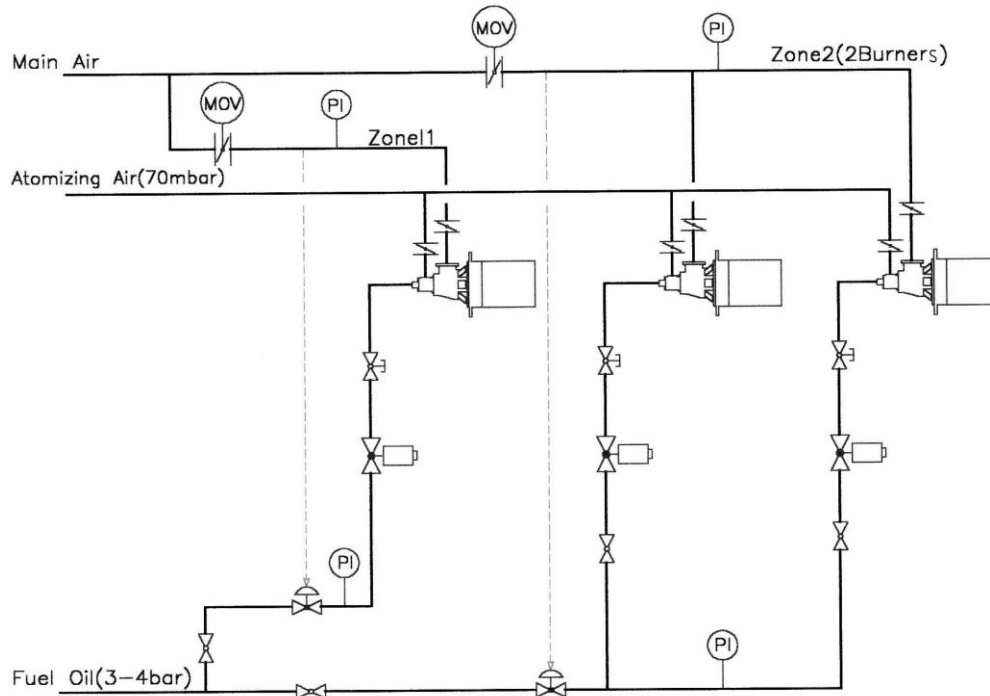

Fig 1 Suggested Piping Arrangement for NAHO Burner
- b) Pipe air and fuel lines in a manner similar to that shown in Figure 1 . Flexible connections are recommended in air and fuel lines to minimize strain from piping and thermal expansion .
- d) Connect impulse piping as shown in Figure 1 .